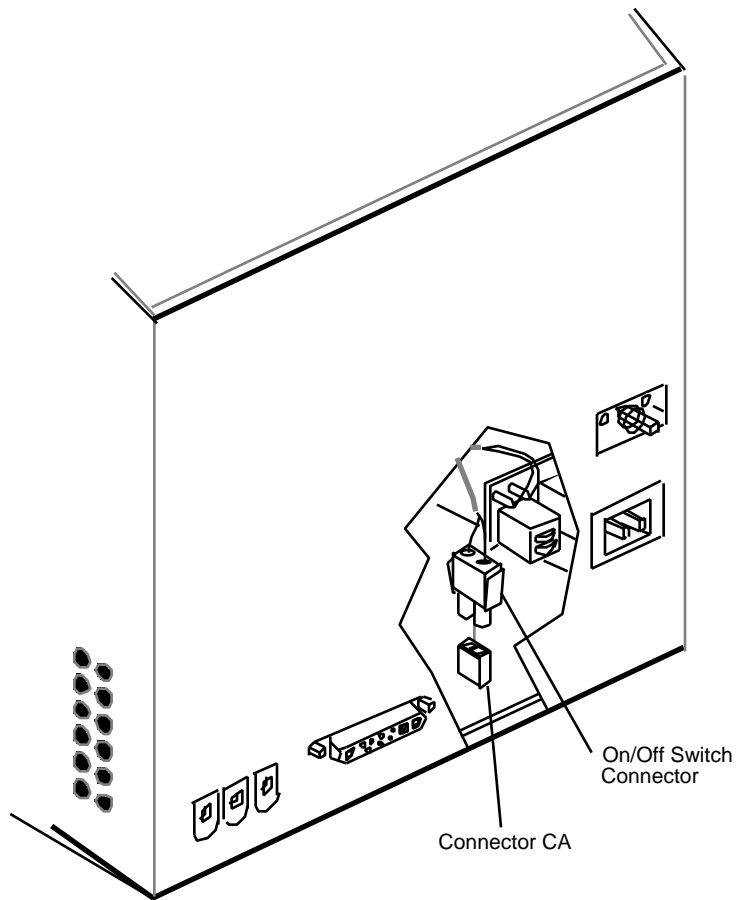

FIGURE 31
7. Connect the on/off switch cable to the connector labelled **CA** on the main deflection board (**Figure 31**).